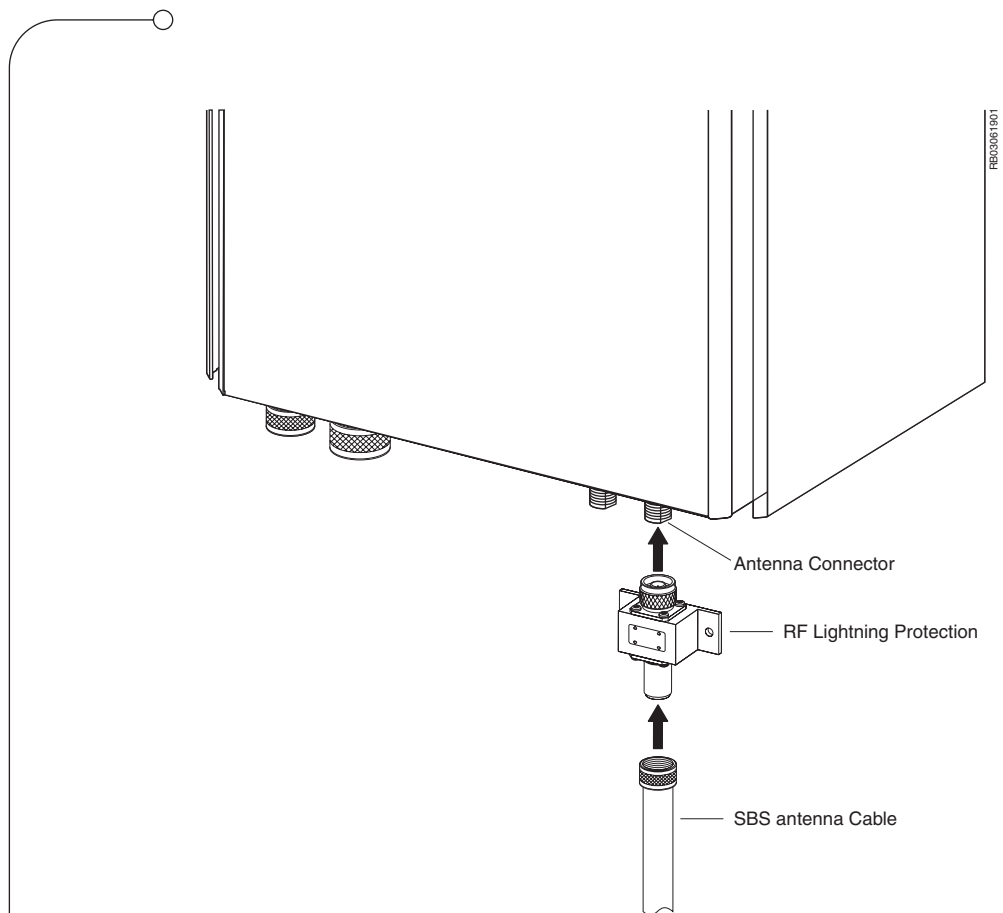

Figure 3.18 SBS Antenna Connection
2. Connect the SBS Antenna Cable to the RF Lightning Protection, as shown in Figure 3.18 on page 55.